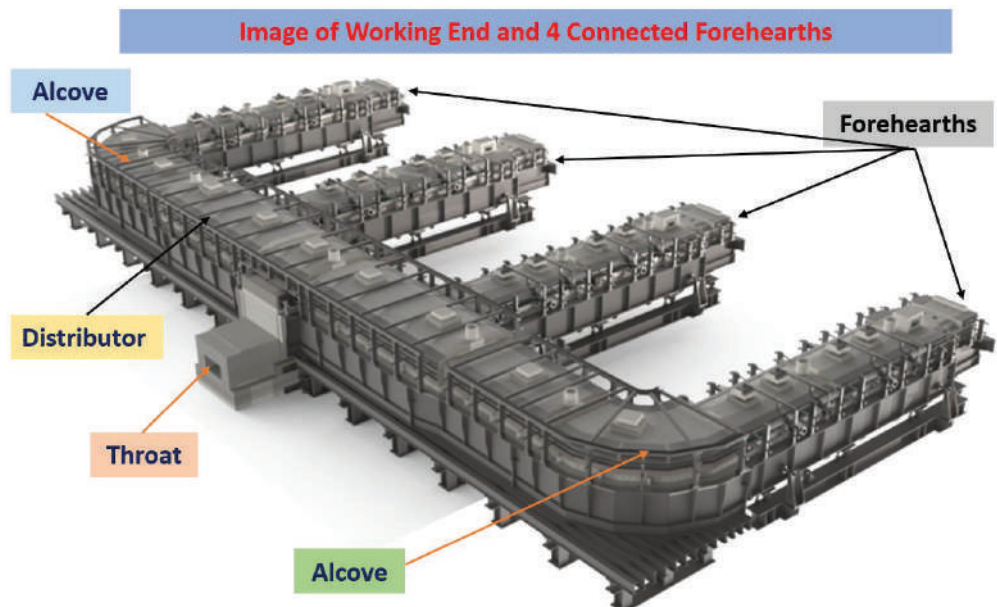

Figure 4.2
1.2 Alcove: The Forehearth are connected to WE directly or with a bend as shown in below image Figure 4.2 for the two end forehearth. The portion of forehearth with bend is known as ALCOVE. The alcove design plays important role as it makes glass to flow smoothly without glass getting stagnant or generating cold glass (cold glass will lead to bubbles and blisters formation in glass). The alcove should have adequate burners all along the length to avoid formation of cold glass.
The forehearth are generally having 2 cooling / heating zones and one equalising zone as shown in Figure 4.2.